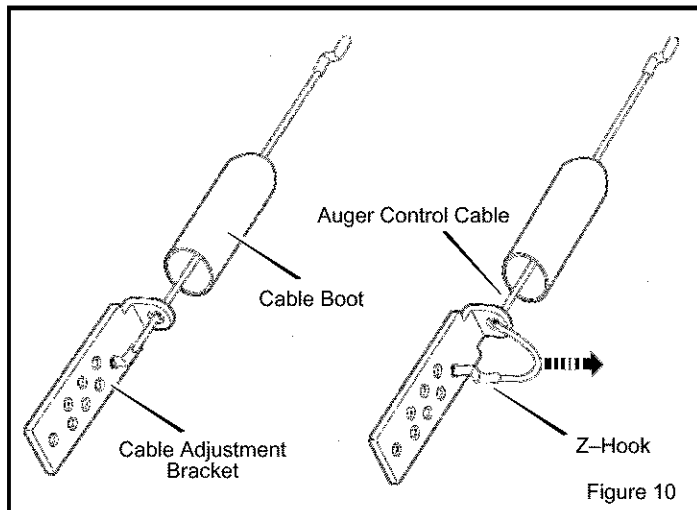

Figure 10
2. Slide the **cable boot** off the **cable adjustment bracket** (Figure 10).